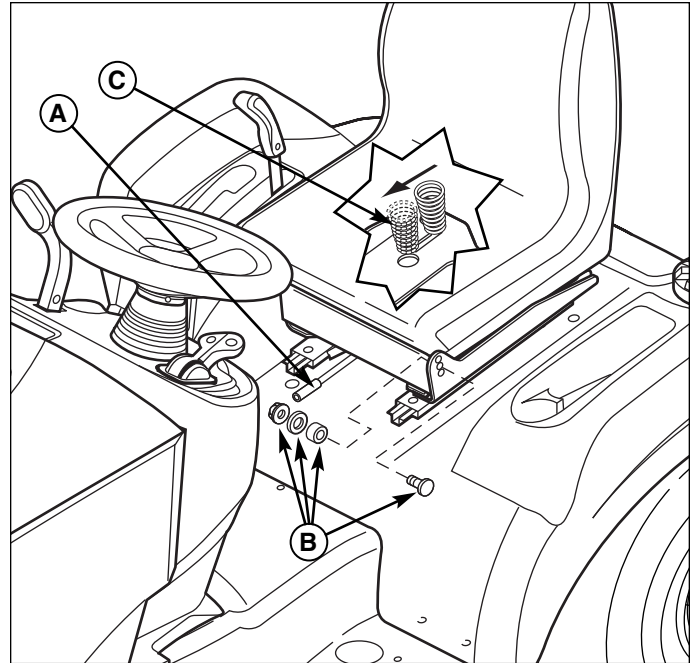

Figure 39. Seat Adjustment
The pitch of the seat can be adjusted to one of three positions. To adjust, remove the carriage bolts, spacers, washers, and nuts (B, Figure 39) from the hinge and reinstall them in the desired holes.
The seat can also be adjusted forward and back. Move the lever (A, Figure 39), position the seat as desired, and release the lever to lock the seat into position.
The seat springs (C, Figure 39) can be adjusted to provide a softer or firmer ride. Tilt the seat forward and slide the spring assembly (C) forward for a softer ride, and back for a firmer ride.